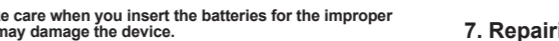

Figure 3 Battery Installation
- Step 1. Refer to figure 3. And insert the two AAA size batteries properly in the right direction.